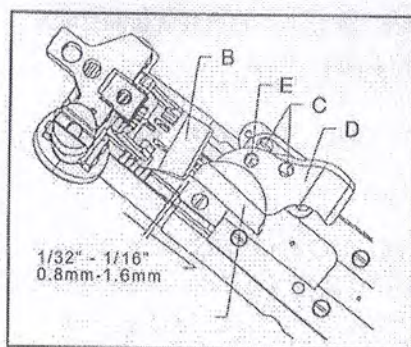

FIG.22
Slide folder (A, Fig. 22) on arm. The folder should be as close to the front of presser foot (B) as possible, making sure to avoid the presser foot contacting the folder when sewing across seams. If adjustment is necessary loosen screws (C) to move entire folder left to right or front to back as required. If just adjustment of upper scroll (D) is needed loosen screw (E) and position scroll to obtain proper seam margin.